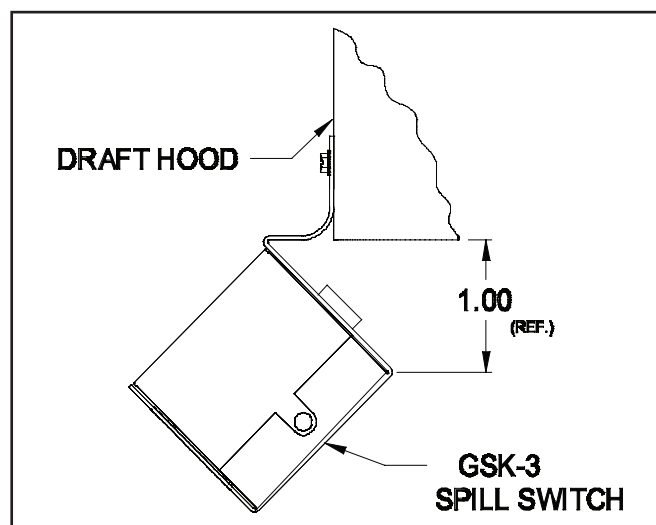

Figure 4
2. The switch should not contact the metal. They should be mounted at least 1" below the hood opening. (See Figure 4) Mount with supplied sheet metal screw.